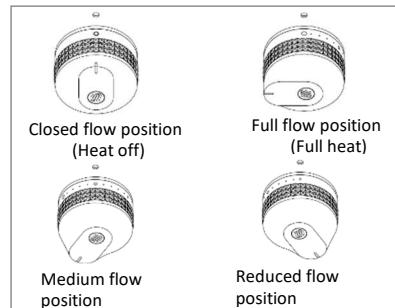

Figure 2: Adjusting the control lever
- The control lever has a symbol (II) that indicates the valve's condition.
5. Then adjust the height of the flame by turning the control lever(s) from full flow (large circle) to reduced flow (small circle) (See Figure 2).